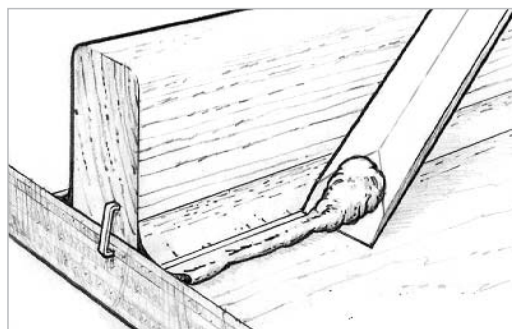

Figure 9-13 Clean up remaining excess epoxy outside of the clean margin before it cures.
3. Clean up the remaining excess material outside of the margin by using a sharpened mixing stick or a putty knife (*Figure 9-13*). Fiberglass cloth or tape may be applied over the fillet area before the fillet has cured (or after the fillet is cured and sanded).